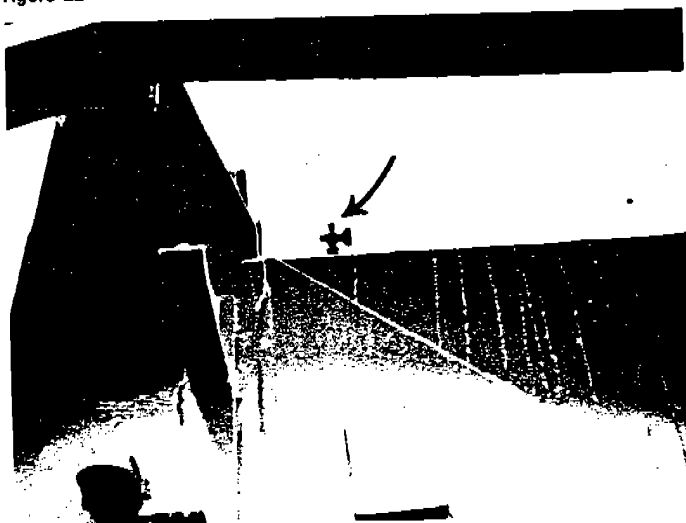

Figure 24
1. Check bleed off valve on tower base. (Figure 24)